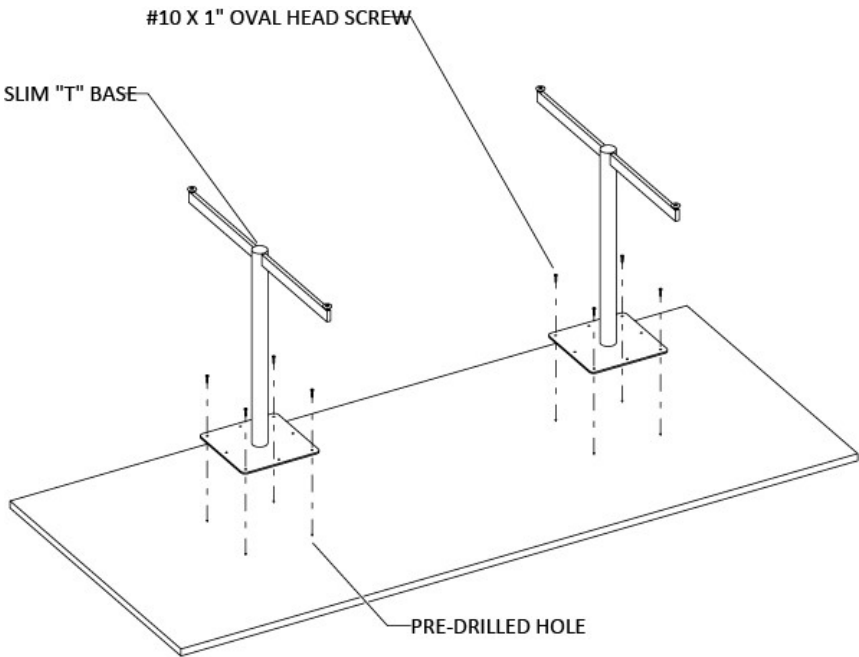

Figure 2
- Position the slim "T" base using the pre-drilled positioning holes and attach it to table top using #10 X 1" Oval Head Screws, (Figure 2).